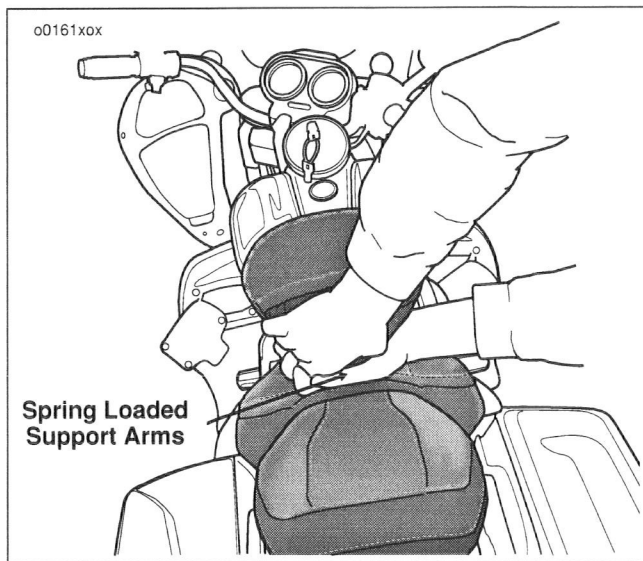

Figure 30. Backrest Removal
2. See Figure 30. Using two hands, squeeze together the spring loaded support arms.